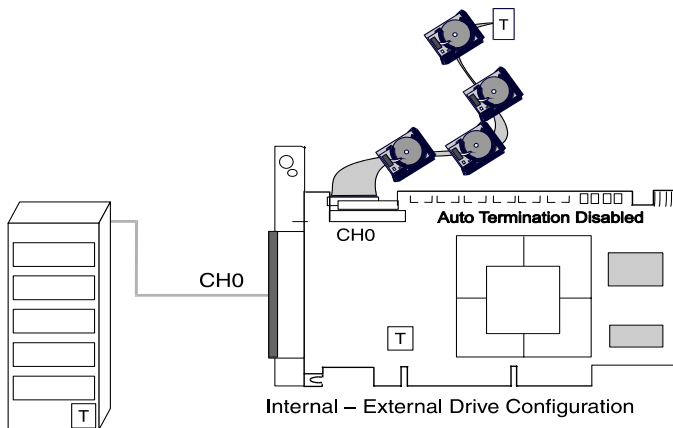

Figure 2-12. Combined Internal and External Configuration
- (c) Connect internal devices as in (a), and external devices as in (b). The combined configuration is illustrated in Figure 2-12.